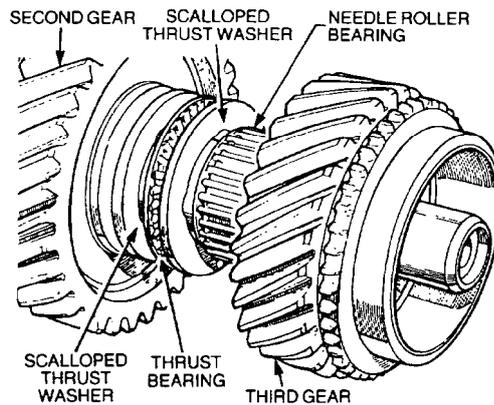

Figure 165 Installing the Third Gear
- h.** Install a scalloped thrust washer, a thrust bearing and another scalloped washer on the mainshaft. Fit a new needle roller bearing and the third gear (Figure 165).